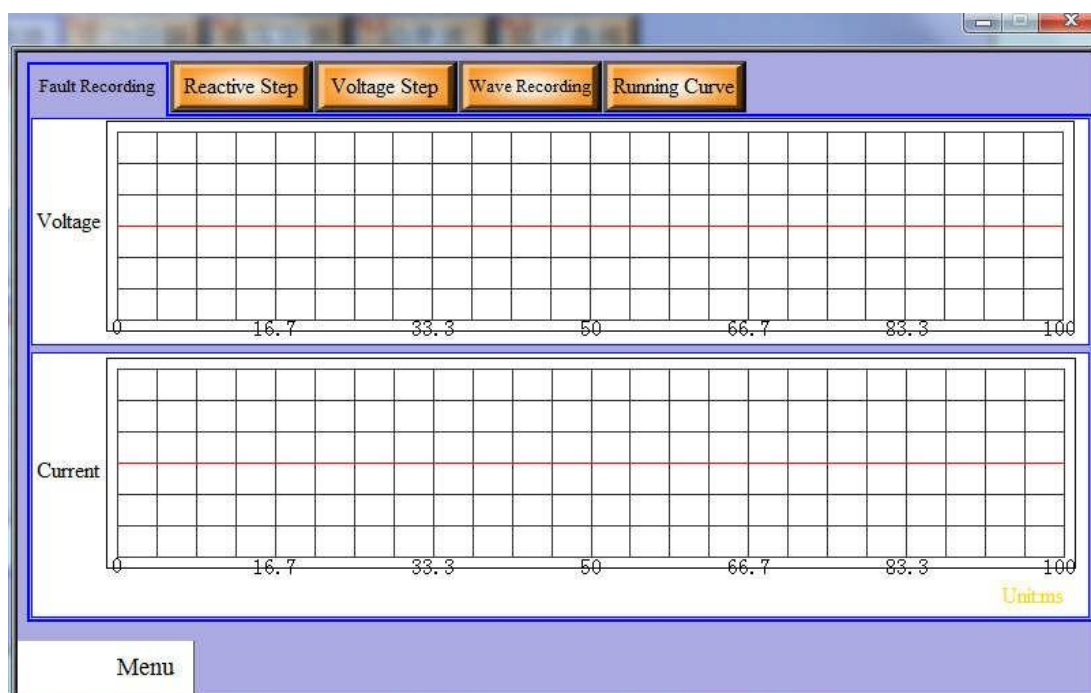

图 5.7 故障录波界面/Figure 5.7 Fault Recording Interface
3) 故障录波：图 5.7 为故障录波界面，可以记录故障瞬间电压及电流波形；
Fault Recording: Fault recording interface is shown in Figure 5.7, it can record the voltage and current waveforms of fault instantaneous.